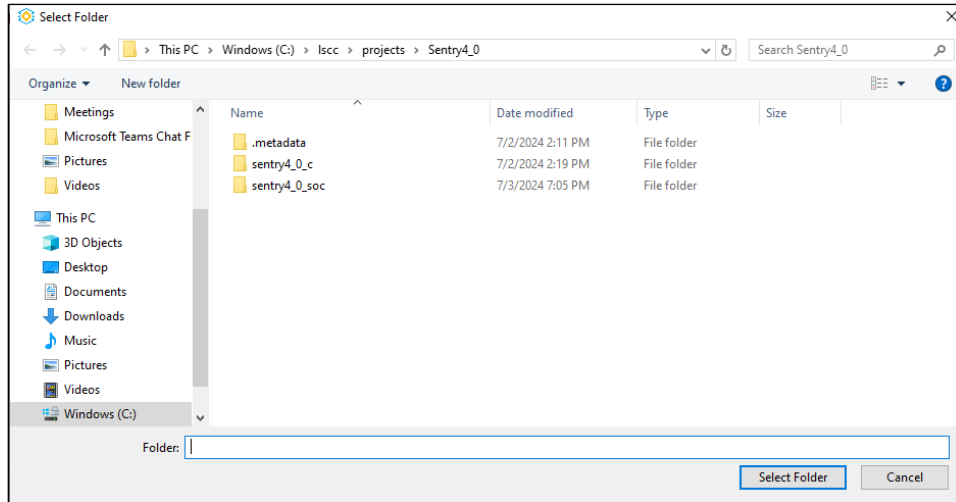

Figure 5.5. Workspace with SoC Project to Import
- Click **Browse** next to **Select Root Directory** and navigate to the directory which contains the SoC project to be imported. Click **Select Folder** (Figure 5.5).